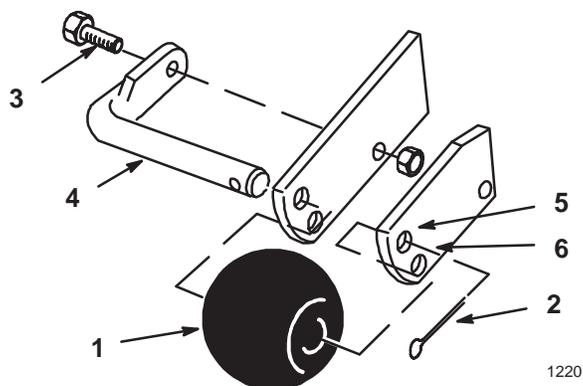

Figure 18
2. Remove cotter pin, bolt and shaft to change hole location (Fig. 18).
3. Select the hole position for the height-of-cut to be used and insert rod (Fig. 18).